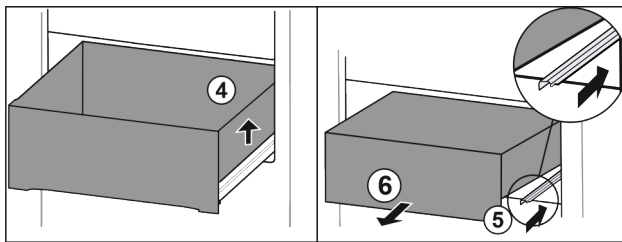

Fig. 80
- Lift drawer on the right. Fig. 80 (4)
- Insert right rail. Fig. 80 (5)
- Remove drawer to the front. Fig. 80 (6)